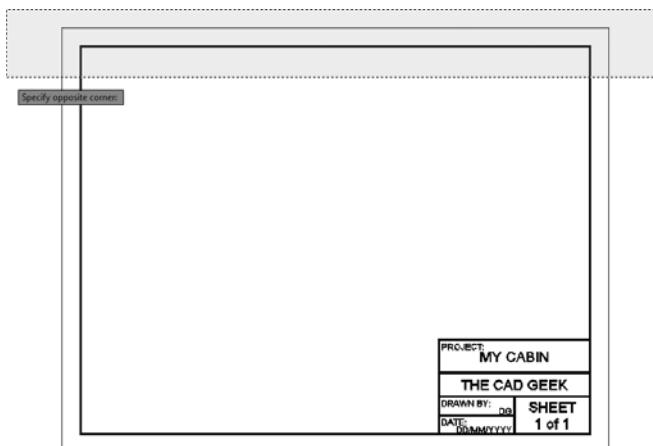

FIGURE 14.5 Stretching the upper edge of the title block
2. Start the STRETCH command, and select the upper portion of the title block using a crossing window, as shown in Figure 14.5.